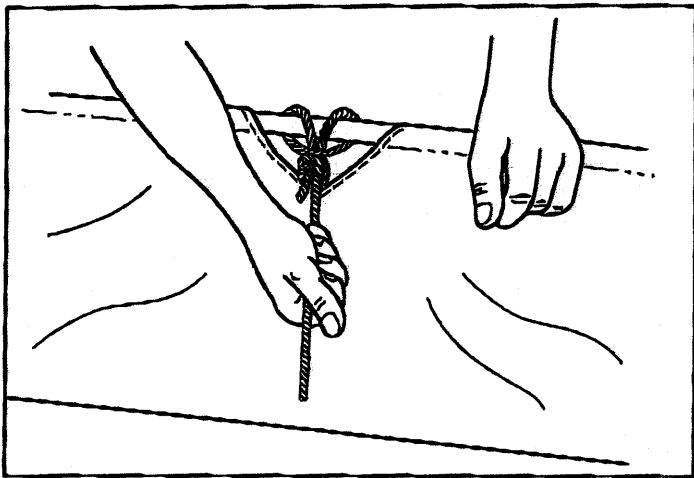

FIGURE 4
6. Secure the rope around the middle of the upper hopper tube as shown in figure 4.